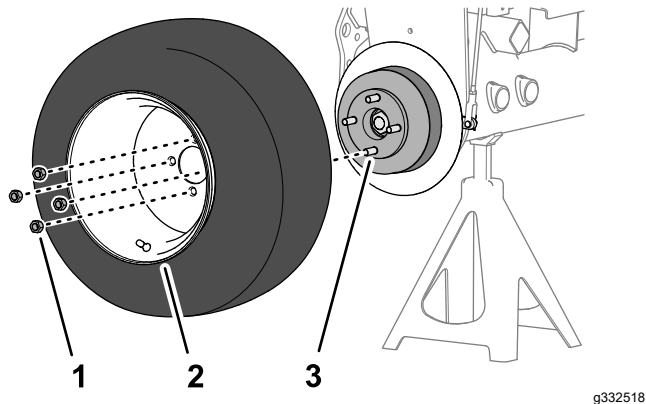

Figure 86
1. Assemble the wheel to the hub with the 4 lug nuts (Figure 86), and tighten the lug nuts by hand.